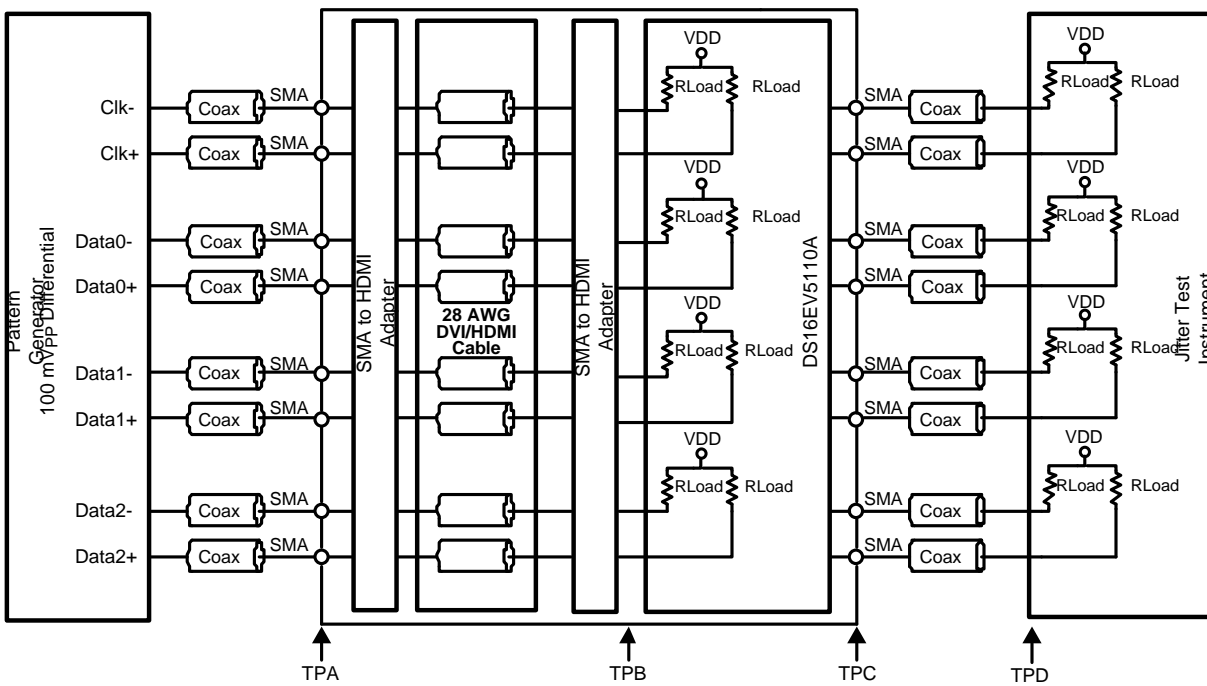

Figure 2. Test Setup Diagram for Jitter Measurement
(3) Allowed supply noise (mV_{P-P} sine wave) under typical conditions.
(4) Specification is ensured by characterization and is not tested in production.
(5) Deterministic jitter is measured at the differential outputs (TPC of Figure 2), minus the deterministic jitter before the test channel (TPA of Figure 2). Random jitter is removed through the use of averaging or similar means.
(6) Total Jitter is defined as peak-to-peak deterministic jitter from ⁽⁵⁾ + 14.2 times random jitter in ps_{rms}.
(7) Random jitter contributed by the equalizer is defined as $\sqrt{J_{OUT}^2 - J_{IN}^2}$. J_{OUT} is the random jitter at equalizer outputs in ps_{rms}, see TPC of Figure 2; J_{IN} is the random jitter at the input of the equalizer in ps_{rms}, see TPA of Figure 2.